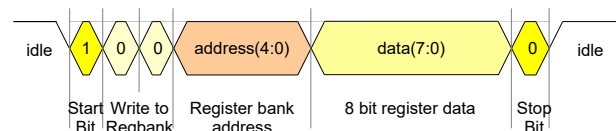

Figure 20: 1W-Interface register bank write sequence
Figure 20 describes the write sequence to the register bank, which uses the same protocol as the 2W-Interface. On an idle wire, a write sequence is initiated by writing a start bit (1) followed by the write command (00) followed by the address and register data. At the end of the sequence, a stop-bit (0) is required.